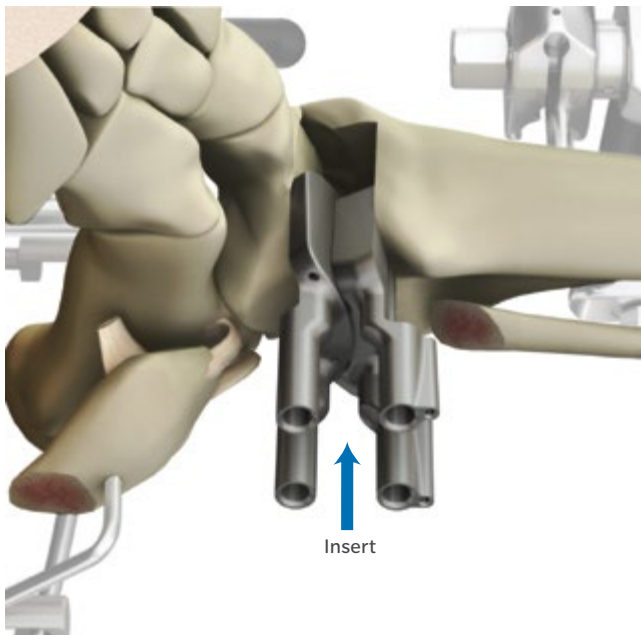

Fig. 66
- Place the Rail Hole Drill Guides into the ankle resection between the talus and tibia with drill holes pointing laterally (Fig. 66).